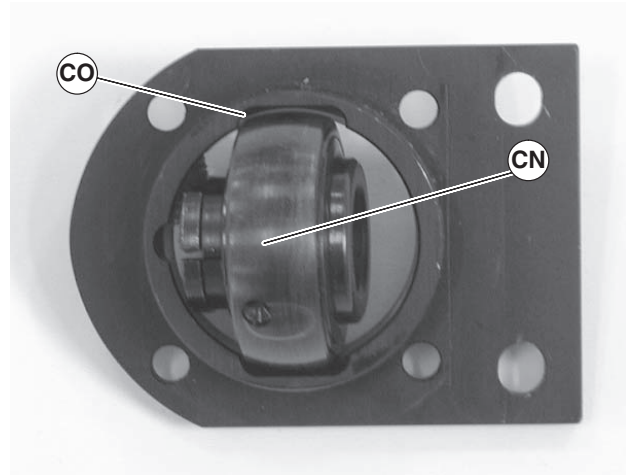

Figure 87
1. Turn bearing (Figure 87, item CN) to align with slots (CO) in bearing housing. Then remove bearing.